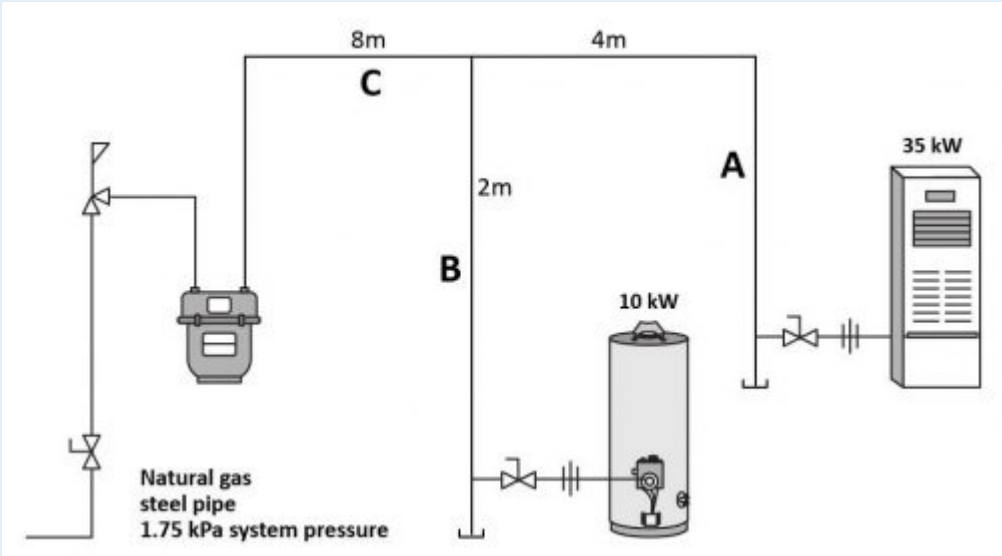

Figure 4
1. Size the drawing in Figure 4 and show all calculations.